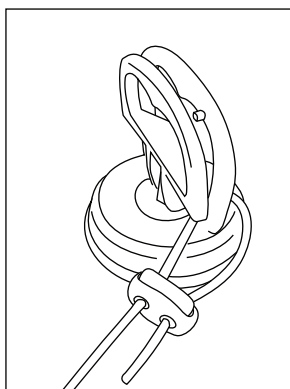

FIGURE 2
- iii. While applying pressure, engage suction cup (up position) (FIG. 2)